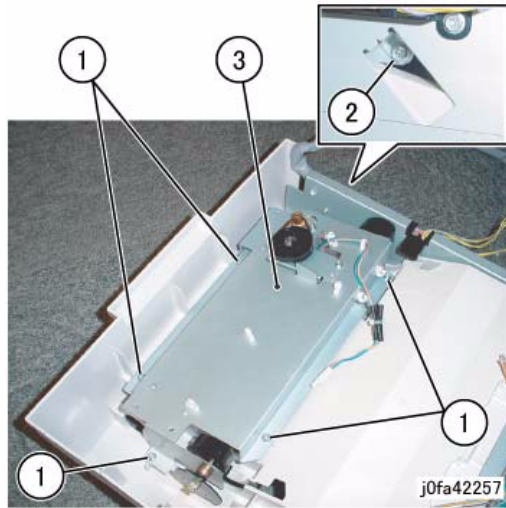

Figure 6 Removing the Stacker Assembly
11. Remove the Stacker Assembly (Figure 6):